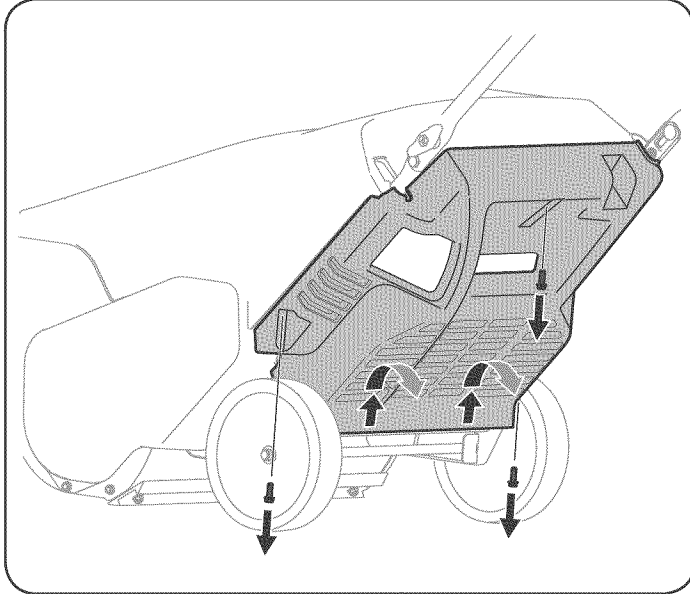

Figure 13
2. Remove the three screws that secure the lower panel. Remove the lower panel by lifting up on the panel to free the tabs at the bottom of the panel from the tab slots and then pull back. See Figure 13.
1. Remove the lower panel as instructed in the Changing Engine Oil section. Refer to Figure 13.